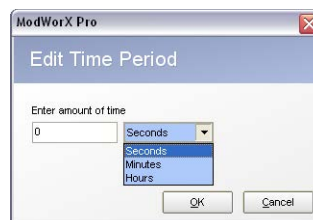

Figure 7.17
- Adjust the Alarm Trigger Hold-off value, if necessary, by clicking the **Edit** button. An Edit Time Period window will appear (Figure 7.17). The alarm trigger hold-off is the amount of time the Scanner will wait before activating the alarm when the assigned parameter value exceeds the setpoint value. By default, the hold-off is set at zero. The time period can be configured in terms of seconds, minutes, or hours.